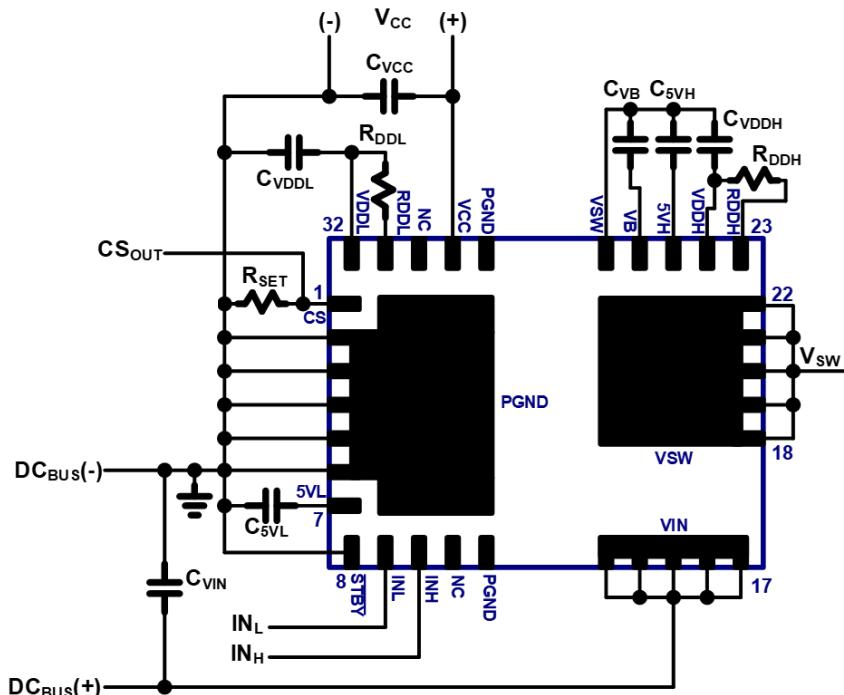

Fig. 24. IC connection diagram
The typical connection diagram for this GaN Half-Bridge IC is shown in Fig. 24. The IC pins include the drain of the high-side GaN power FET (V_{IN}), the half-bridge mid-point switched node (V_{SW}), the source of the low-side GaN power FET and IC GND (P_{GND}), low-side IC supply (V_{CC}), low-side gate drive supply (V_{DDL}), low-side turn-on dV/dt control (R_{DDL}), low-side 5V supply ($5V_L$), low-side referenced PWM inputs (IN_L , IN_H), low-side current sensing output (CS), auto-standby enable input ($STBY$), high-side supply (V_B), high-side gate drive supply (V_{DDH}), and high-side 5V supply ($5V_H$). The external low-side components around the IC include V_{CC} supply capacitor (C_{VCC}) connected between V_{CC} pin and P_{GND} , V_{DDL} supply capacitor (C_{VDDL}) connected between V_{DDL} pin and P_{GND} , turn-on dV/dt set resistor (R_{DDL}) connected between V_{DDL} pin and R_{DDL} pin, current sense amplitude set resistor (R_{SET}) connected between CS pin and P_{GND} , 5V supply capacitor (C_{5VL}) connected between $5V_L$ pin and P_{GND} , and the auto-standby enable pin ($STBY$) connected to P_{GND} to enable auto-standby mode or connected to $5V_L$ to disable auto-standby mode. The external high-side components around the IC include V_B supply capacitor (C_{VB}) connected between V_B pin and V_{SW} , V_{DDH} supply capacitor (C_{VDDH}) connected between V_{DDH} pin and V_{SW} , turn-on dV/dt set resistor (R_{DDH}) connected between V_{DDH} pin and R_{DDH} pin, and 5V supply capacitor (C_{5VH}) connected between $5V_H$ pin and V_{SW} . The high side V_B , $5V_H$ and V_{DDH} bypass capacitors must be chosen carefully to accommodate various system considerations such as high side wake up time, high side hold up time and standby power.